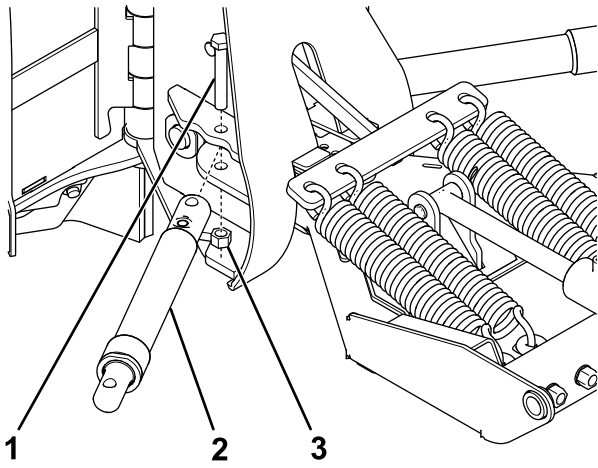

Figure 9
- Secure the 2 angle cylinders to the blade center using a bolt (5/8 inch) and top locknut (Figure 9).